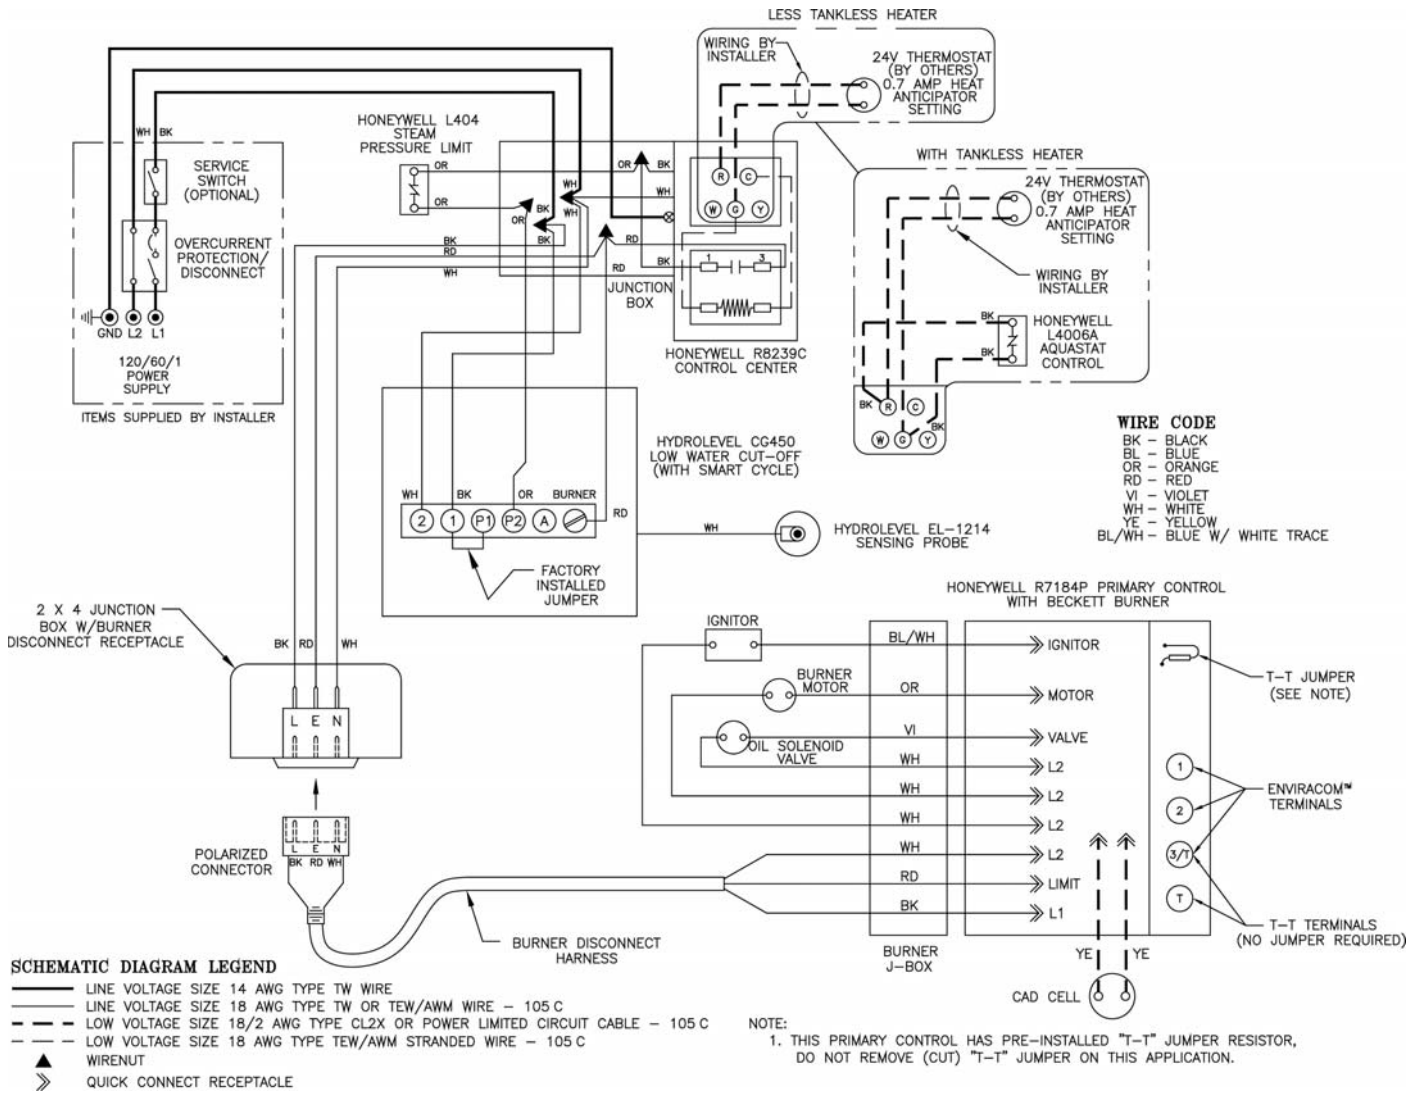

Figure 19: Wiring Diagram, Steam, Hydrolevel CG450 Probe LWCO
5. Use armored cable (BX) over all exposed line voltage wiring.
8. Wiring should conform to Figures 19 through 23B.
- #### B. INSTALL A ROOM THERMOSTAT on an inside wall about four feet above floor. Never install thermostat on an outside wall or where it will be influenced by drafts, hot or cold water pipes, lighting fixtures, television, rays of the sun or near a fireplace. Keep large furniture away from thermostat so there will be free movement of room air around this control. Heat Anticipator in Thermostat should be set to match the requirements of the control to which it is connected. See Figures 19 thru 23B for desired system and heat anticipator setting. If system tends to overheat above the thermostat's temperature setting, reduce heat anticipator setting by .1 or .2 amps. If system tends to short cycle without reaching desired room temperature, increase heat anticipator setting by .1 or .2 amps.